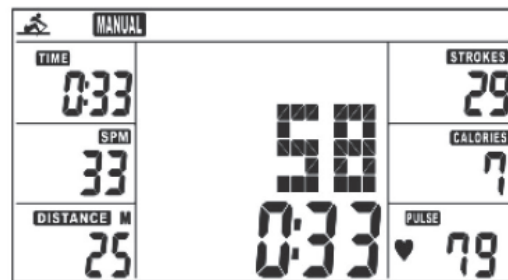

Fig. 7
*Set target values will be counted down, the remaining values will be counted up (Fig. 7).*